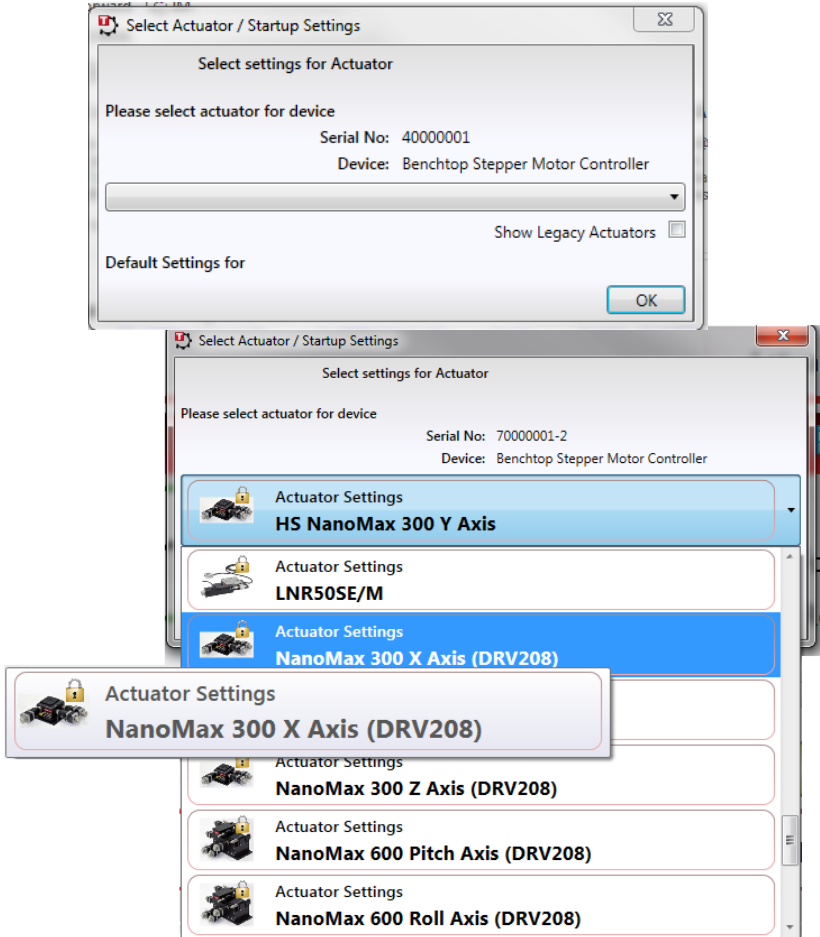

Fig. 3.2 Stage Configuration Window
- 4) Select your stage type (e.g. NanoMax 300 X-Axis (DRV208) if you have a NanoMax stage fitted with DRV208 actuators on the X-axis) as shown in Fig. 3.2.